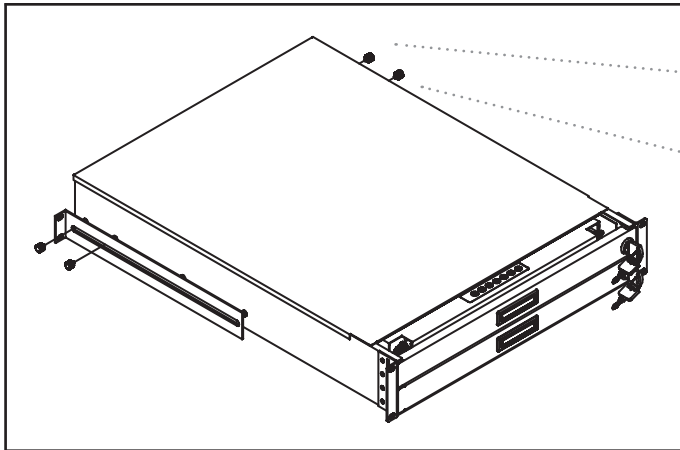

Figure 1. Installing the rear L-bracket to the LCD keyboard drawer.
- Install each rear L-bracket using two fasteners shown in **Figure 1**.